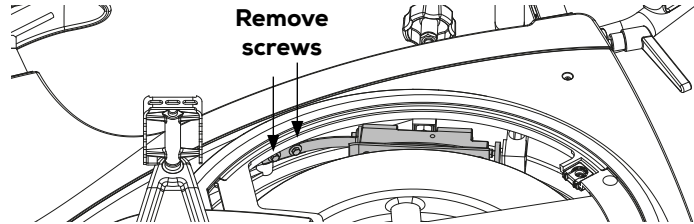

Figure 21
- 3) Remove the two screws holding the brake block to the frame by using an 8 mm wrench, see figure 21